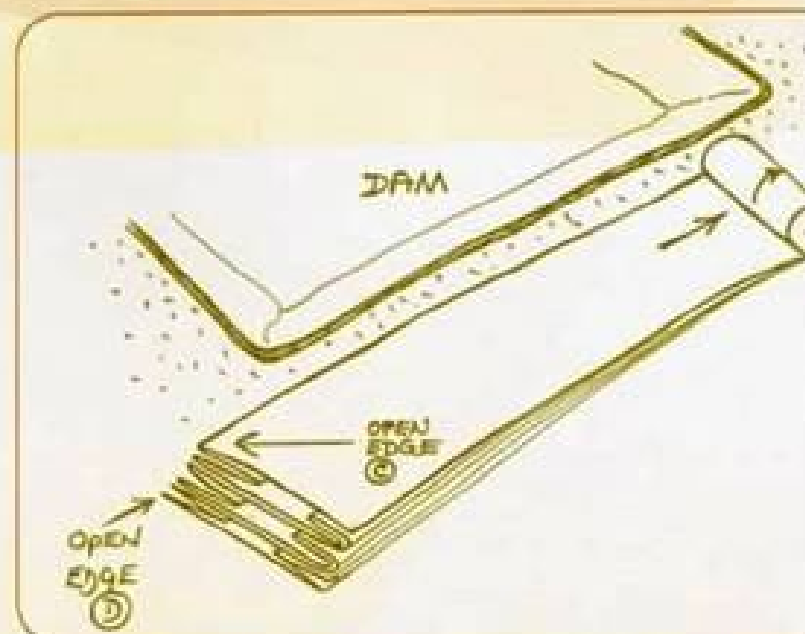

Figure 2
The roll is also marked on one end with "Slit Edge" which is the location of the open edge (D). This side of the roll MUST be kept as close to the trench as possible, to enable the liner to fold out freely later. See Figure 2. Now carefully unwrap the liner and unroll it in the direction shown by the arrow on the outside wrapping.